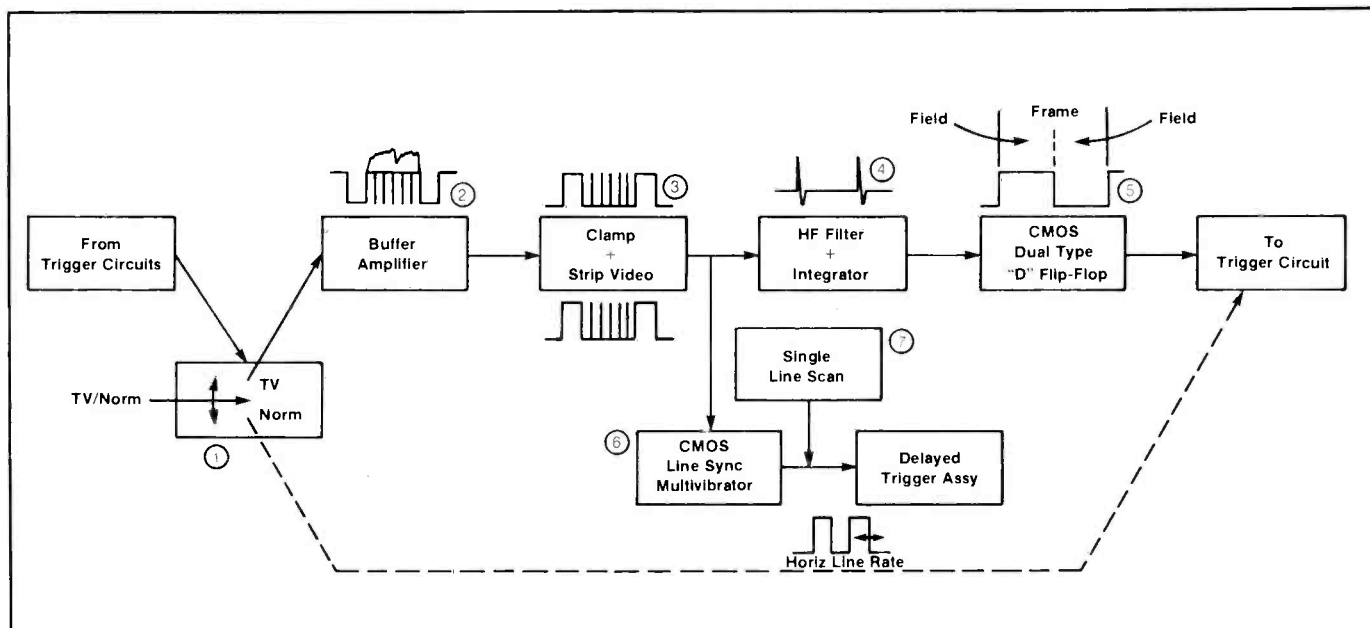

Figure 10. A block diagram of the sync separator circuit.
The TV/video sync option adds the circuits and controls (Figure 10) that enable internal triggering on composite video signals, almost
- High-frequency horizontal line sync pulses are removed and vertical pulses remain. The first six equalizer pulses are too short in duration to integrate past the trigger level (signal inverted, Figure 10); however, the first vertical serrated pulse is of sufficient duration to integrate past the trigger level and toggle the flip-flop.
The module used in these products operates on essentially the same principles as described above. The differences in operation are highlighted (steps in Figure 10 are referenced).
- The output of the flip-flop (step 5, Figure 10) exits the module as the rear panel *main trigger output* and externally triggers the oscilloscope's main sweep.
- The output of the multivibrator (step 6, Figure 10) exits the module as the rear panel *delayed trigger output* and externally triggers the oscilloscope's delayed sweep.
- The single line scan (step 7, Figure 10) control is located on the module's front panel and operates as described in the previous theory of operation section (7).